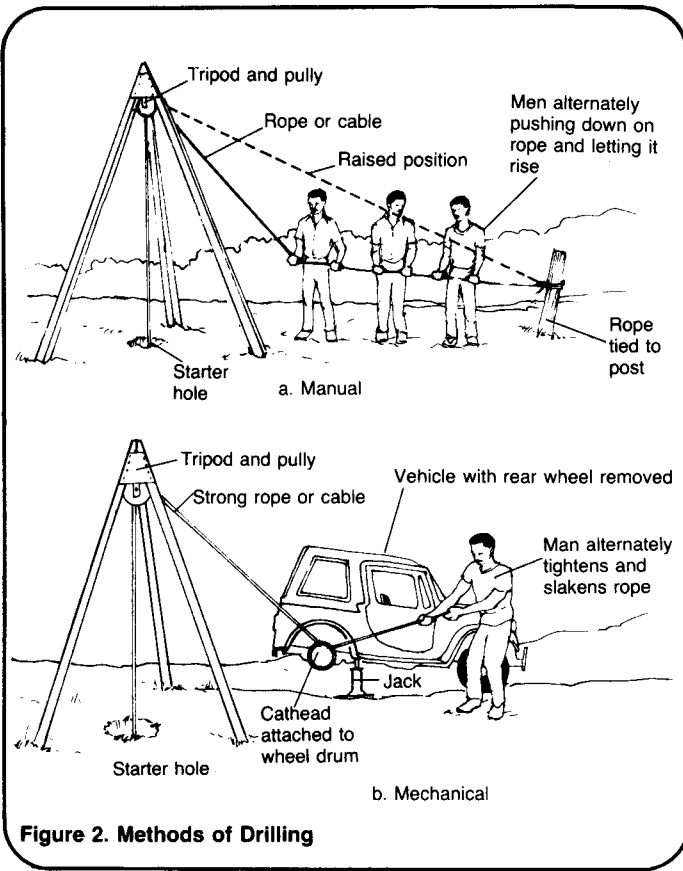

Figure 2. Methods of Drilling
2. A design drawing of the method of drilling similar to Figure 2.